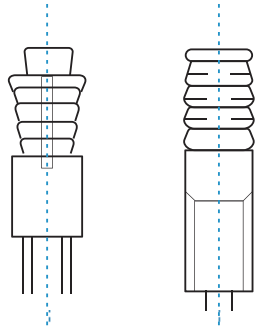

Figure 3.2
- Determine the location on the ceiling of the room or building roof for mounting, and drill four $\Phi 12$ mm X 50-55 mm holes. Then embed and set up the expansion hook anchors (purchased accessory 4) in these holes. See Figure 3.2.